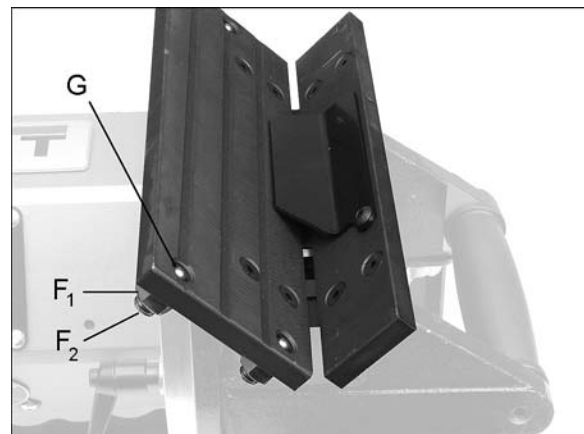

Figure 7-3: bead positioning
1. Loosen hex nut (F₁, Figure 7-3) with 14mm wrench.
2. Turn set screw (F₂) with 5mm hex wrench to raise steel bead (G) slightly above guide plate surface.